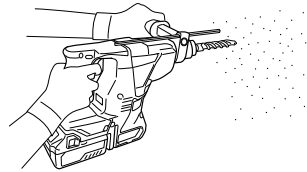

Fig. 19
- (1) Mount the drill bit.
- (2) Pull the trigger switch after applying the drill bit tip to the drilling position (Fig. 19).
- When the drill bit touches construction iron bar, the bit will stop immediately and the rotary hammer will react to revolve. Therefore please grip the side handle and handle tightly as shown in Fig. 19.